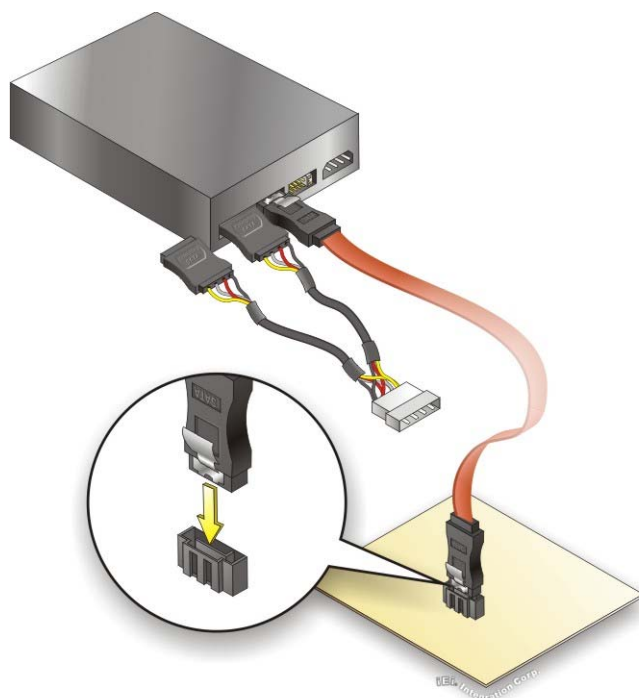

Figure 4-6: SATA Power Drive Connection
Step 3: Connect the cable to the SATA disk. Connect the connector on the other end of the cable to the connector at the back of the SATA drive. See Figure 4-6.
Step 4: Connect the SATA power cable. Connect the SATA power connector to the back of the SATA drive. See Figure 4-6.